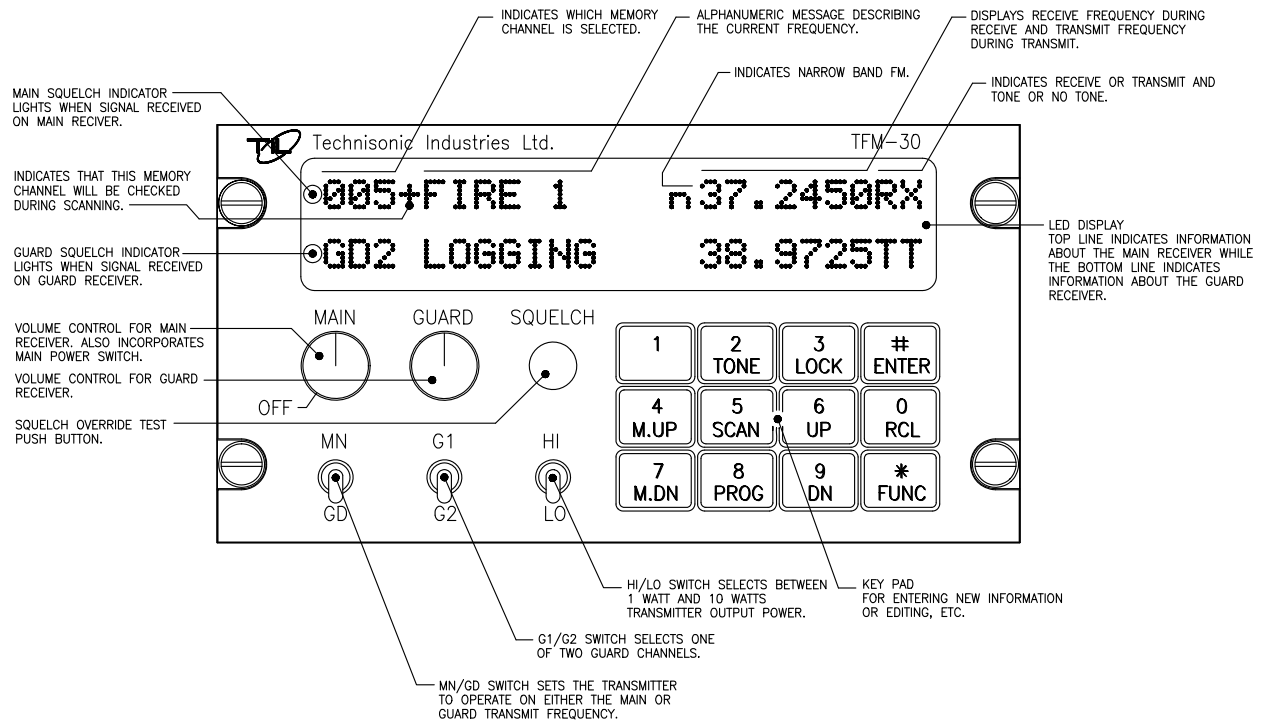

FIGURE 2.1 TFM-30 Operator's Switches and Controls
2.2 OPERATING INSTRUCTIONS (See Figure 2-1)